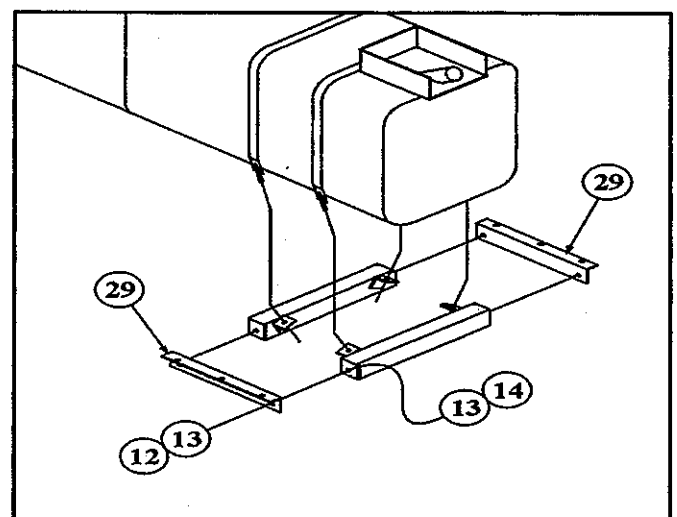

Figure 4—Fuel Tank Straps and Angle Crossmember
6. Remove the lock nuts (14), flat washer (13), and capscrew (12) from the angle crossmember (29). (See Figure 4—Fuel Tank Straps and Angle Crossmember.)